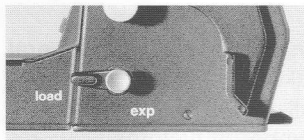

Figure 15
When the entire film has been exposed (the letter "L" is displayed in the film metering window), or when a partially exposed film is to be removed, the changeover lever (19) has to be set on "load" (Figure 15). The film advance lever (14) should then be used to advance the film until no more resistance is felt.